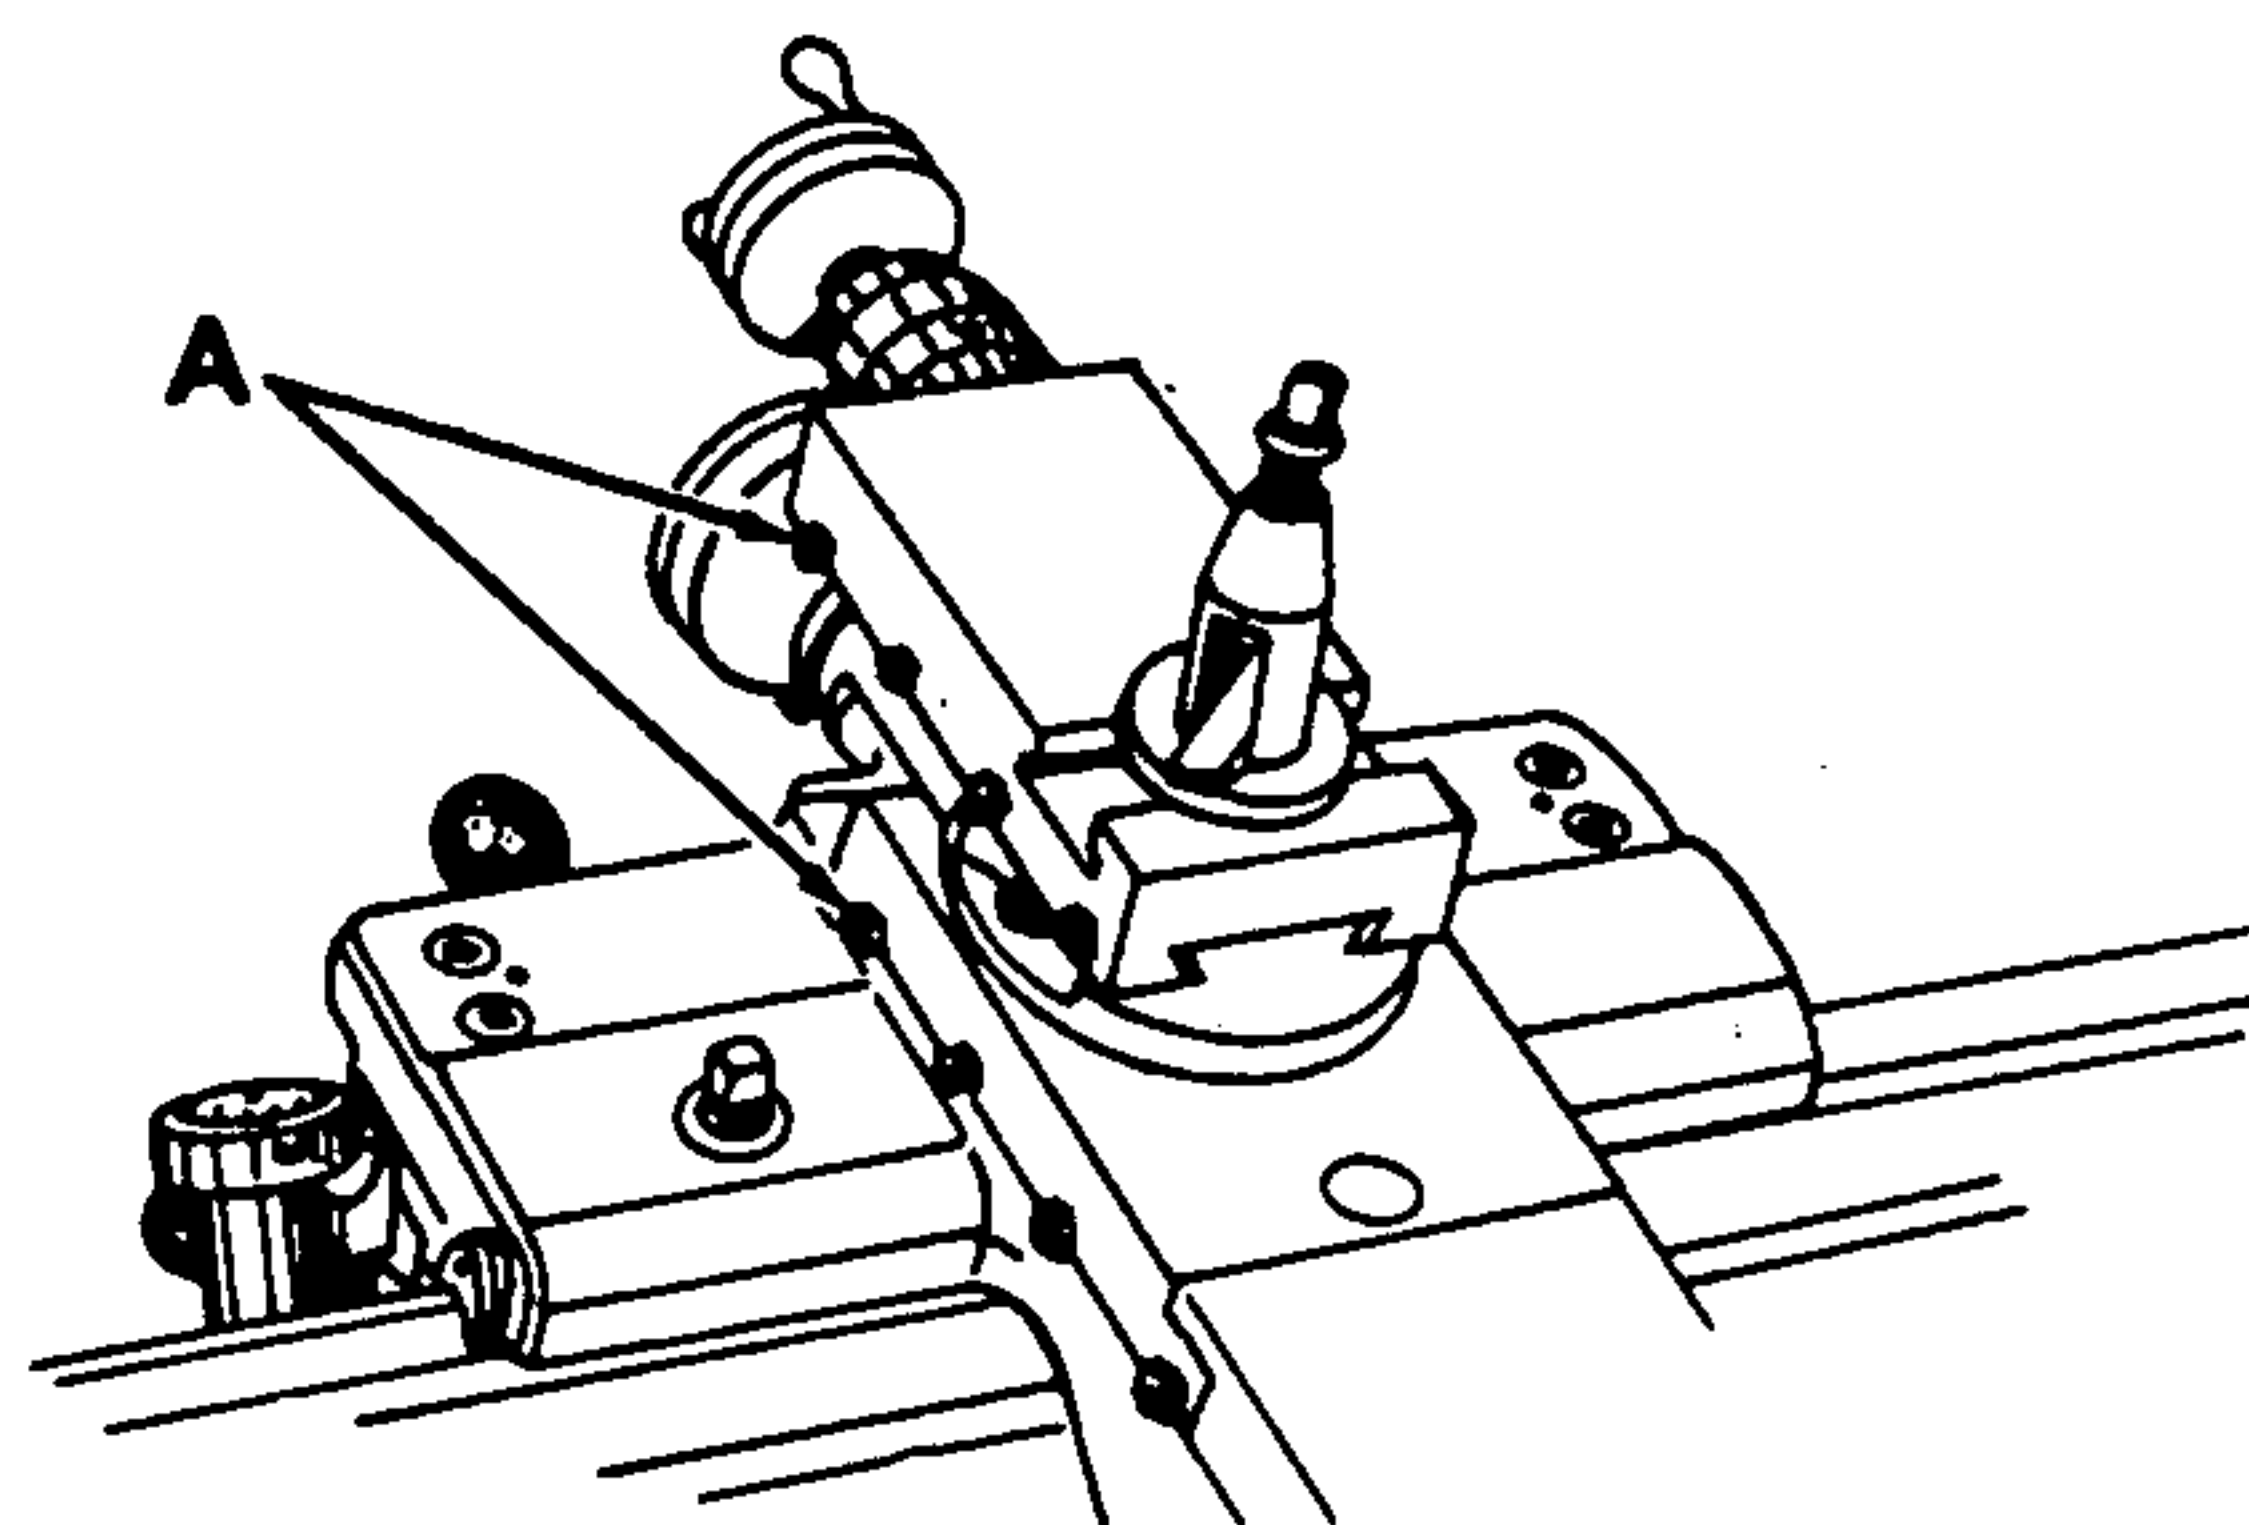

Figure 22
1. Loosen the gib screw lock nuts (A, fig. 22).